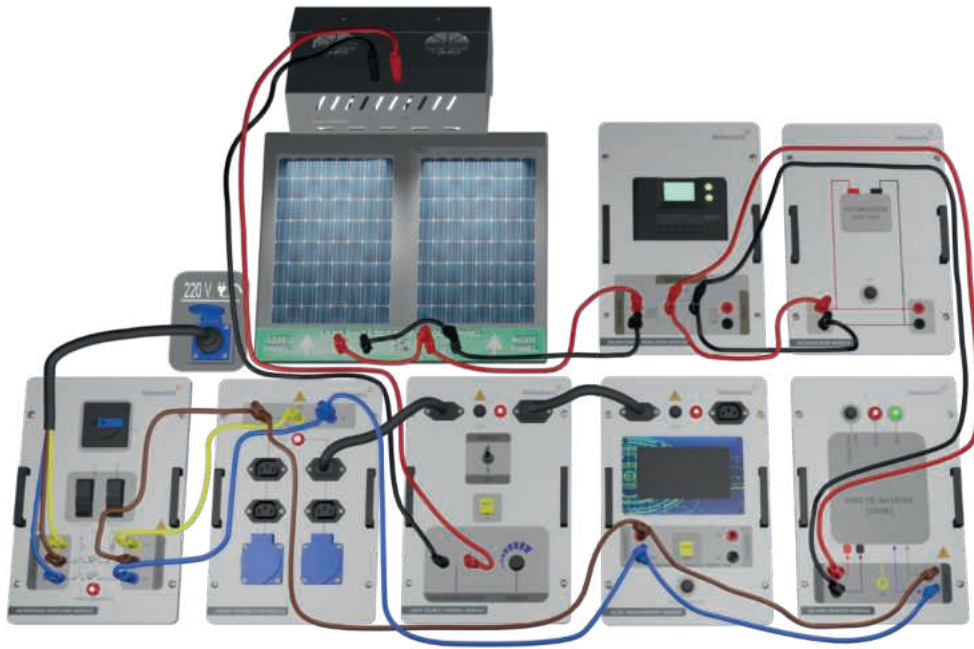

Figure-71. Installation Image of Examination of On-Grid Invertor
- Set up the connection as specified in Figure-71. Maintain a constant level of light in the laboratory by creating an average lighting scenario. Be aware that any changes in the positions of lamps or curtains will impact the experimental results.